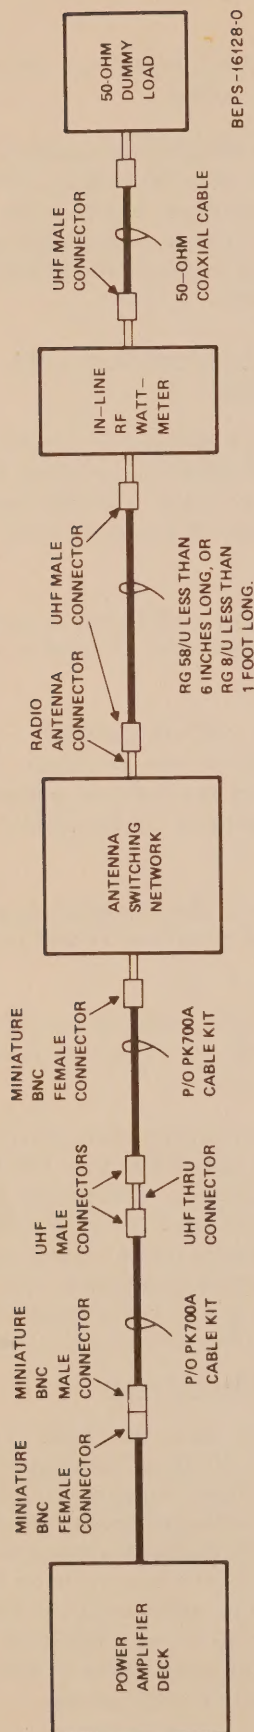

Figure 36.
- (a) Connect a thru-line wattmeter, a 50-ohm dummy load, and adapter cables (from PK700A Cable Kit) as shown in Figure 36.